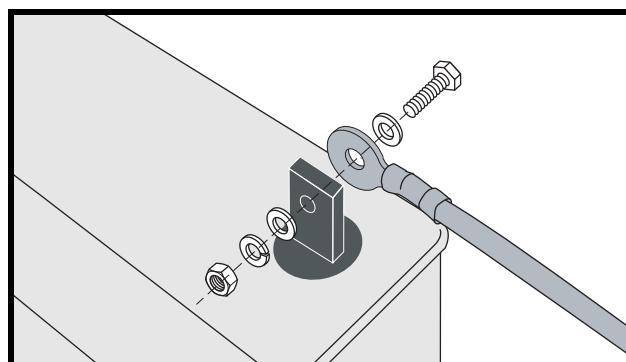

Figure 11A. Cable to Terminal Connections
4. Disconnect the battery cables from the battery terminals by sliding back the terminal boots and unscrewing the nut from the bolt. **See figure 11A.**